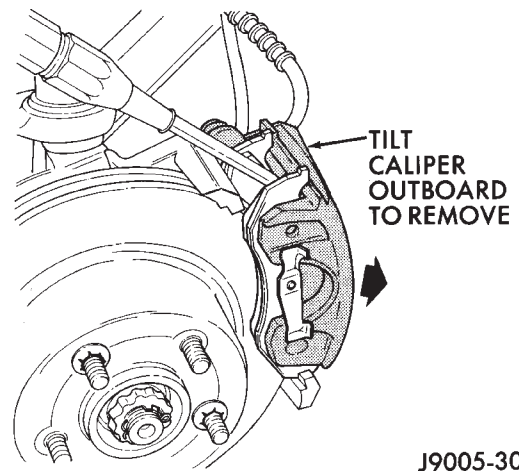

Fig. 28 Caliper Removal
(5) Tilt top of caliper outward with pry tool if necessary (Fig. 28) and remove caliper.